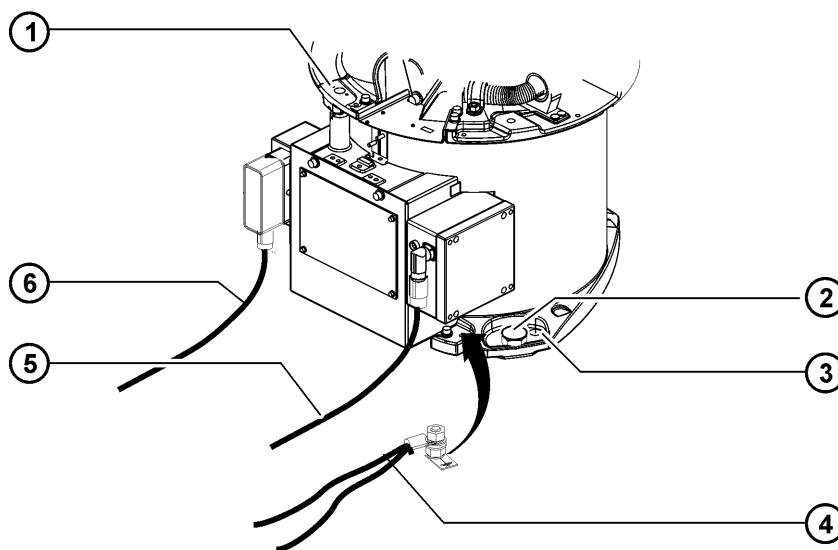

Fig. 12-2: Removing the robot
7. Release and unplug the connectors of the motor and data cables (>>> Fig. 12-2).